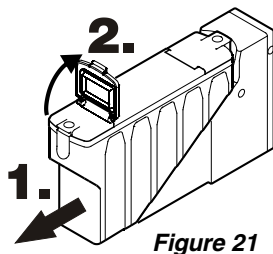

Figure 21
1. Pull out the water tank up to the last clip-in position. This makes filling the tank in the appliance easy - **Figure 21**.
2. Open the front flap and fill the water tank while still in the appliance with water using a jug or bottle - **Figure 21**.